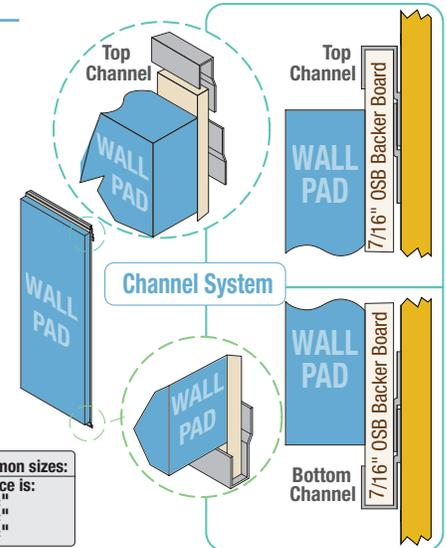

Figure 3
6. Slip the "J" channel over the pads (see Fig. 3) and secure it down in the "Z" channel.